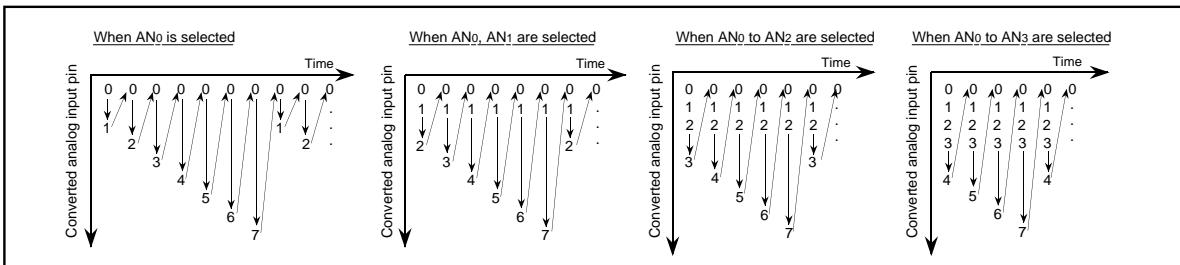
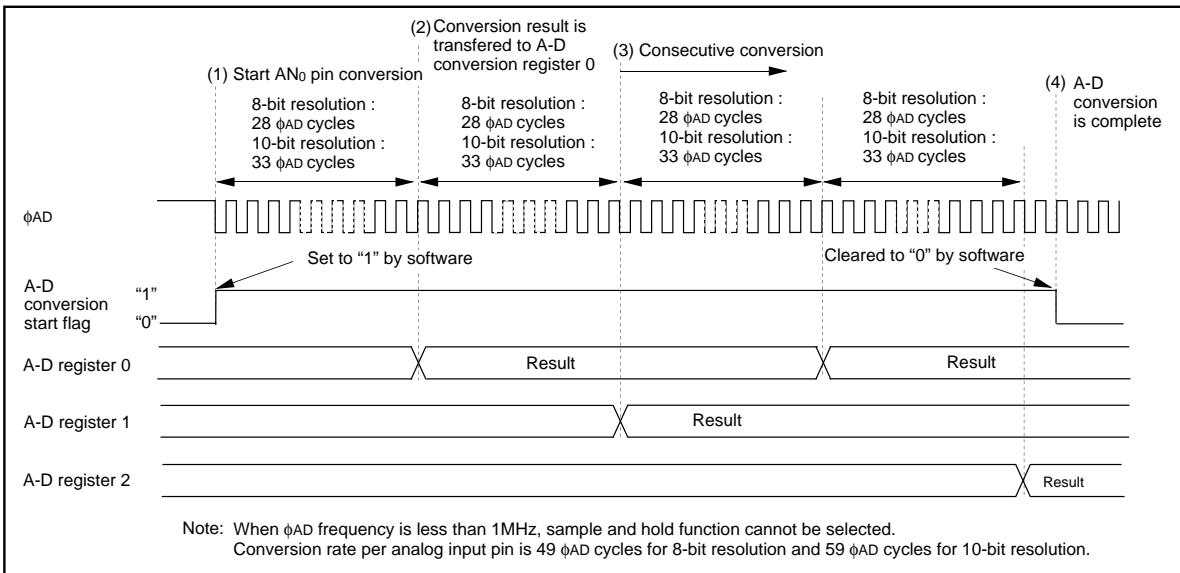
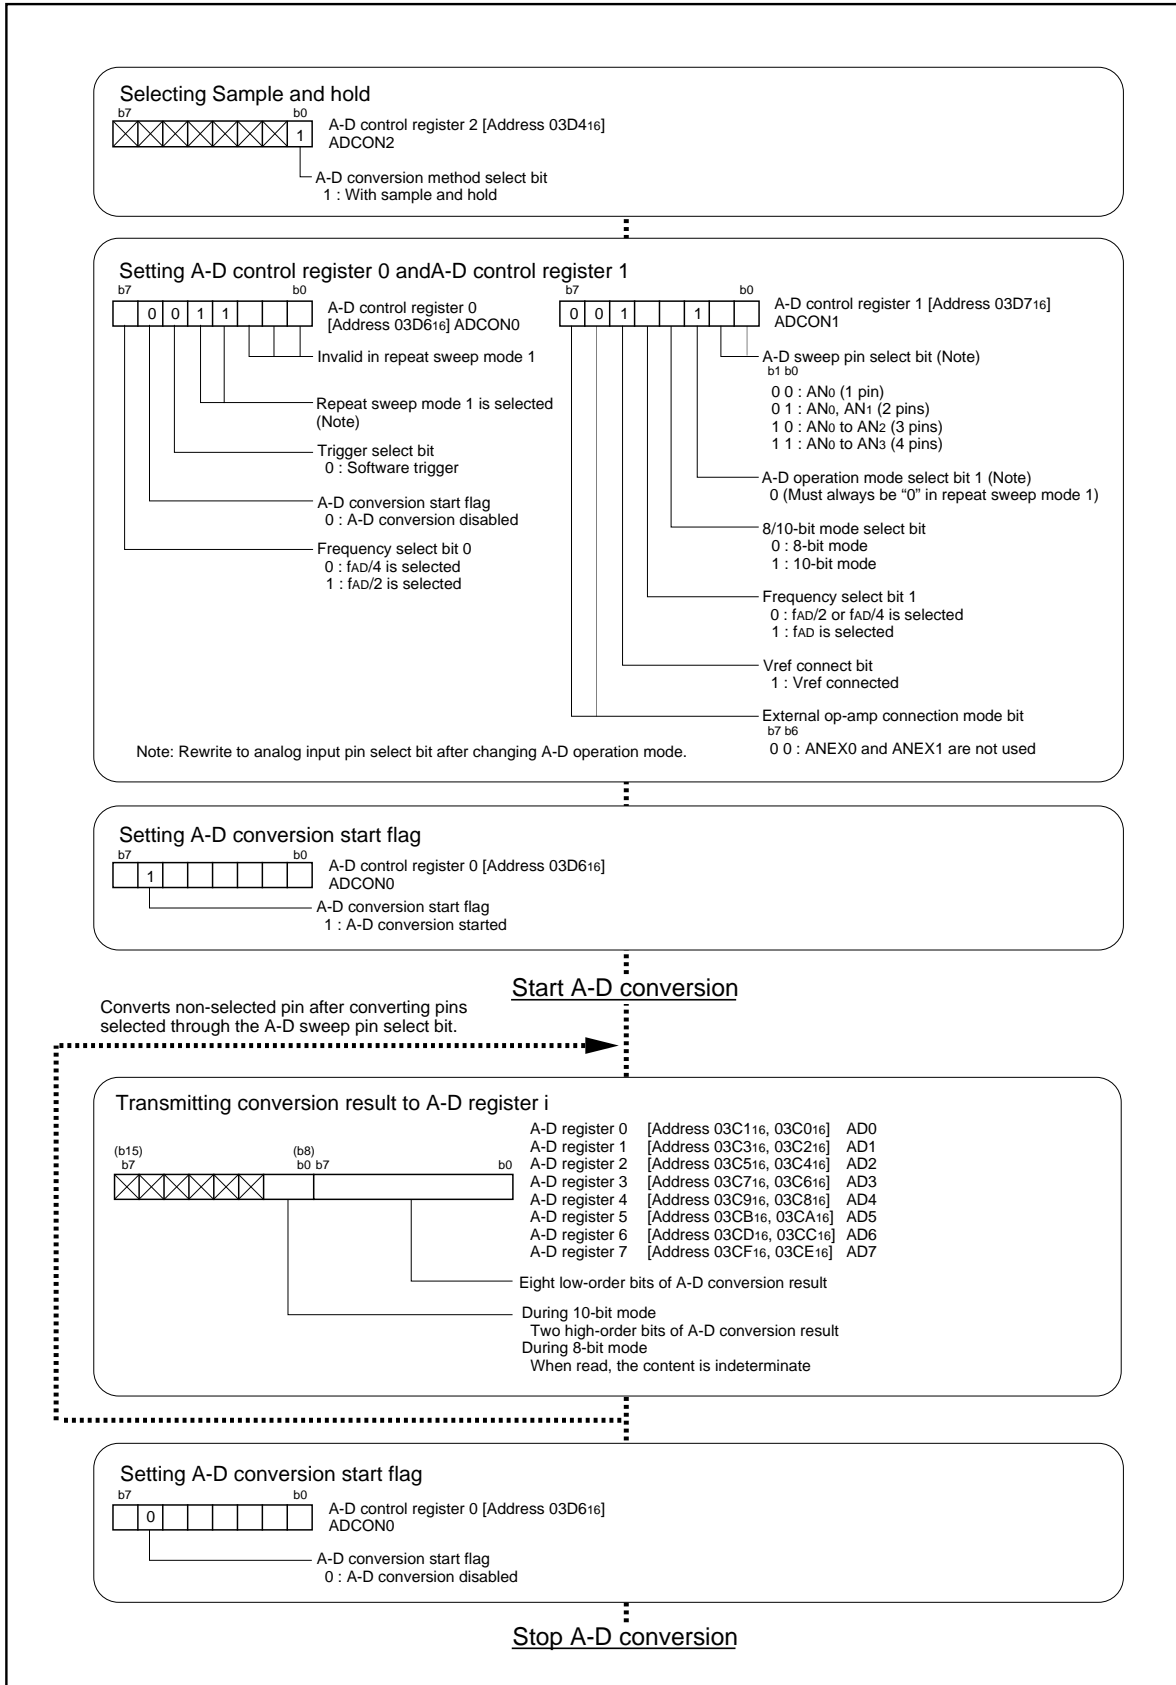

Figure 2.7.19. ANi pin's sweep sequence in repeat sweep mode
Figure 2.7.20. Operation timing of repeat sweep 1 mode
Figure 2.7.21. Set-up procedure of repeat sweep 1 mode
In repeat sweep 1 mode, choose functions from those listed in Table 2.7.9. Operations of the circled items are described below. Figure 2.7.19 shows ANi pin's sweep sequence, Figure 2.7.20 shows timing chart, and Figure 2.7.21 shows the set-up procedure.
- (1) Setting the A-D conversion start flag to "1" causes the A-D converter to start the conversion on voltage input to the AN₀ pin.
- (2) After the A-D conversion on voltage input to the AN₀ pin is completed, the content of the successive comparison register (conversion result) is transmitted to A-D register 0.
- (3) Every time the A-D converter carries out A-D conversion on a selected analog input pin, the A-D converter carries out A-D conversion on only one unselected pin, and then the A-D converter carries out A-D conversion from the AN₀ pin again. (See Figure 2.7.19.) The conversion result is transmitted to A-D register i every time conversion on a pin is completed. The A-D conversion interrupt request bit does not go to "1".
- (4) The A-D converter continues operating until software goes the A-D conversion start flag to "0".